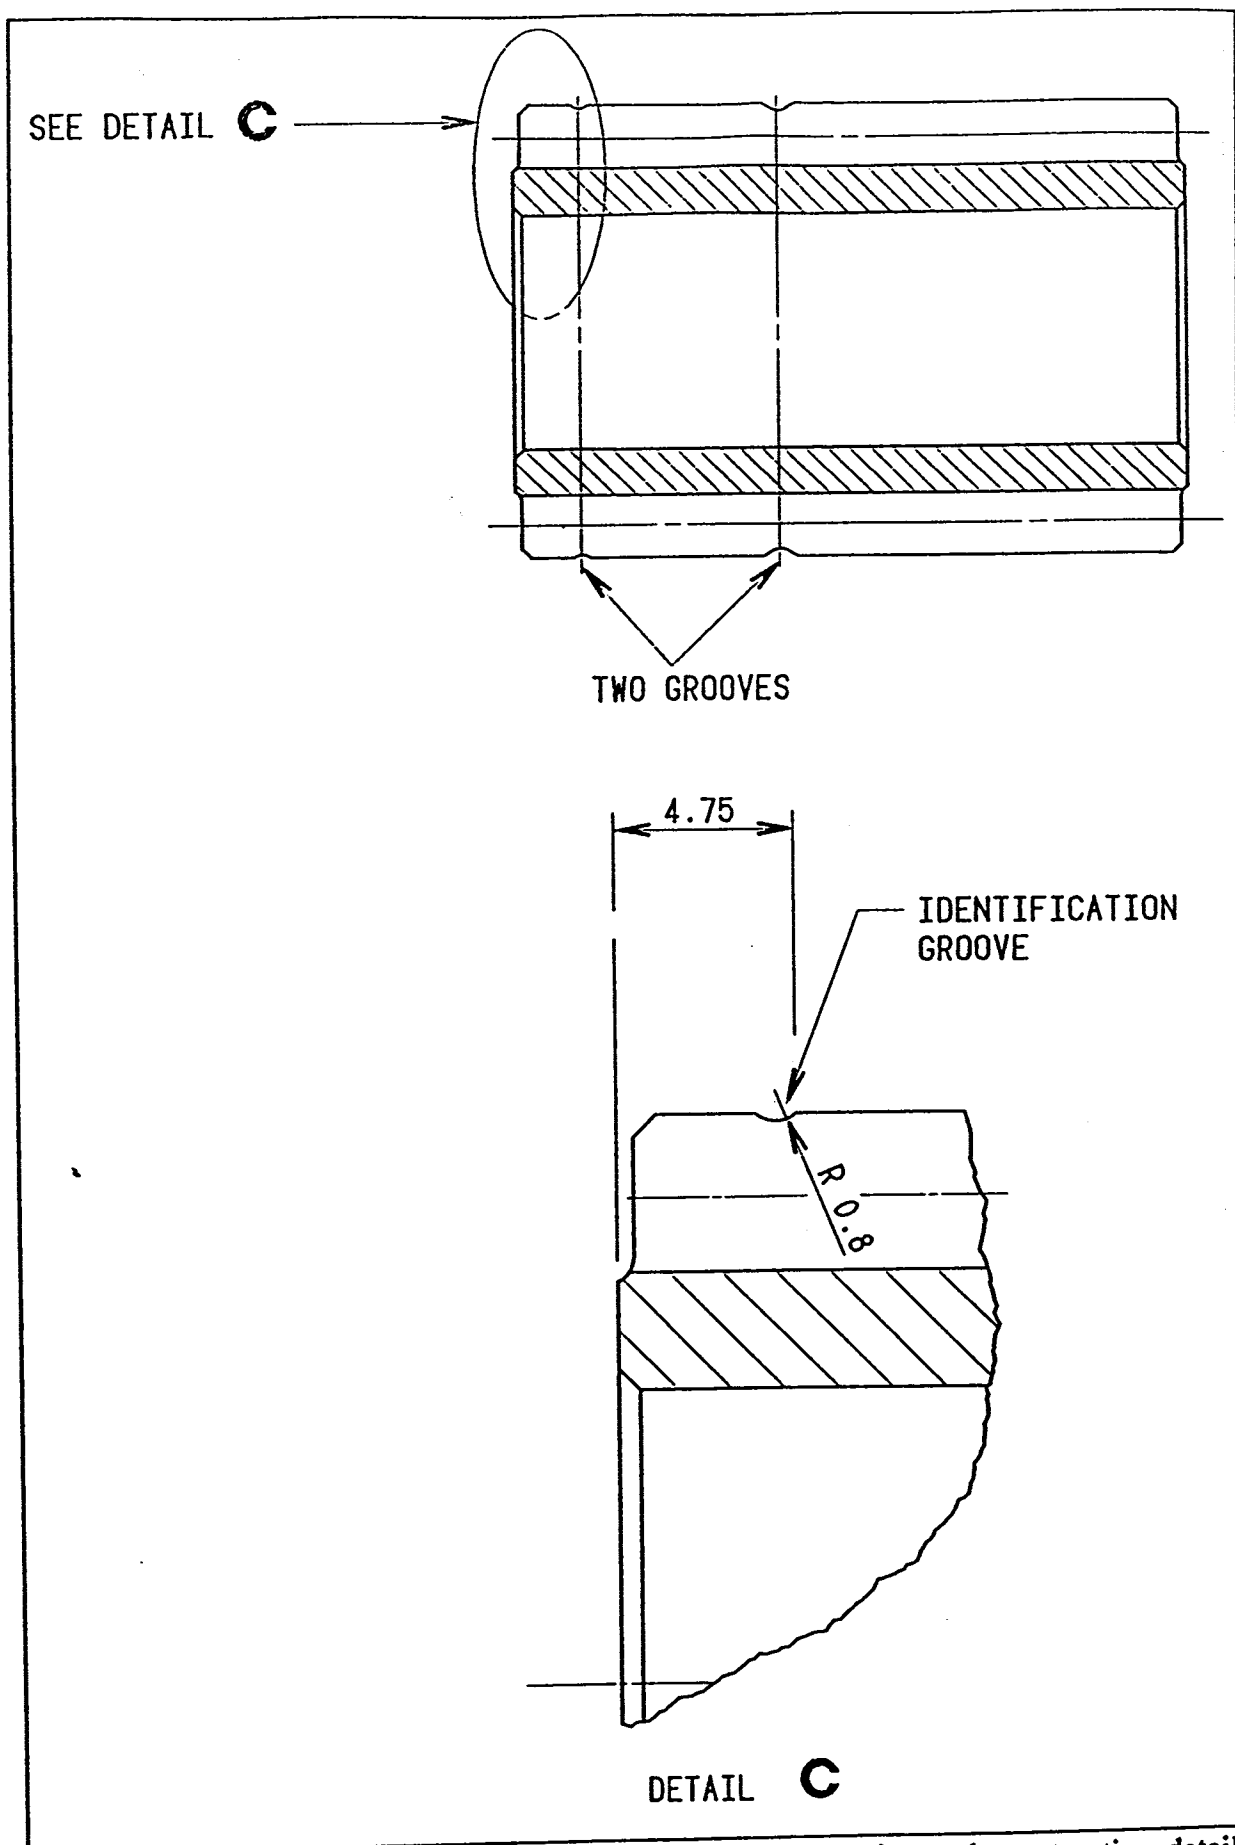

Figure 3 : Sketch of the long planet pinion showing the location and construction details of the groove identifying the new design.
- a. The new long planet pinion has a shallow groove (R 0.8) near an end of the pinion (4.75mm from the end face), refer to Figure 3. This means that the long pinions will have two grooves in total.